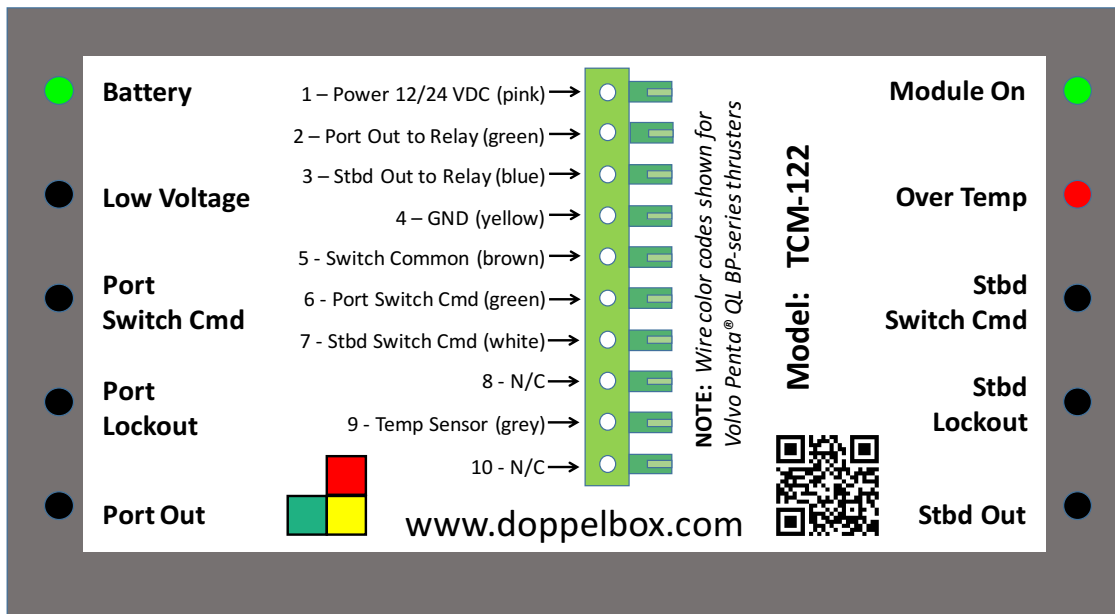

Figure 4 Power On and Over Temp LEDs will Illuminate with Pins 1 and 4 connected
- 5.) Connect Pin 1 to 12/24VDC (pink wire) and Pin 4 to Ground (yellow wire). Plug the screw terminal block back into the TCM-122 and turn power back on. Ensure the Battery, Module On and Over Temp LED's on the front face of the TCM-122 are illuminated (refer to Figure 4).